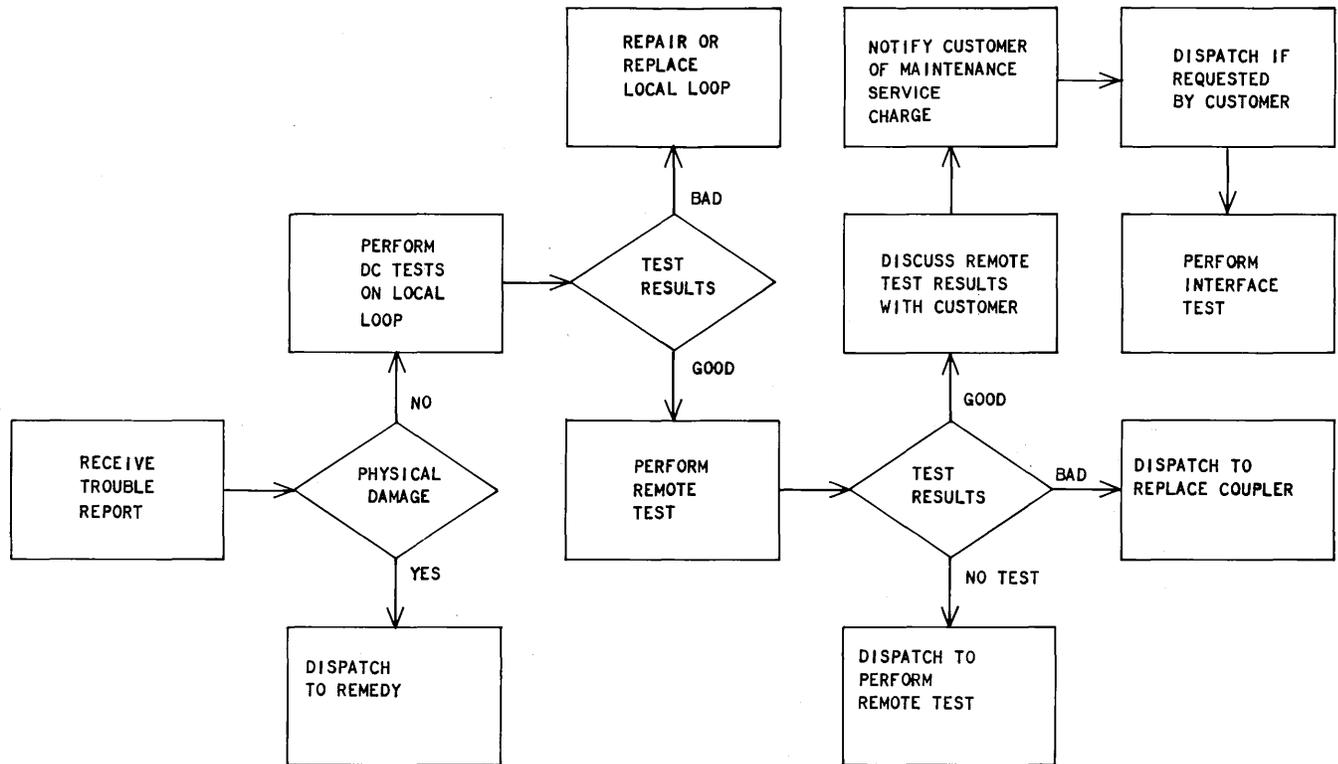

Fig. 15—Basic Activities Prior to Dispatching Employee
5.05 The PSC must analyze the information provided by the customer to determine if a trouble condition does exist and the most probable cause. Available tests (ie, normal dc loop test and remote test of coupler) should be performed to determine if a telco employee must be dispatched to customer premises. The conditions which could warrant a maintenance visit and efforts which lead to each are shown in Fig. 15.
5.06 On a maintenance visit, perform the tests or evaluations to isolate and clear the trouble within the station as directed by the PSC. Begin with the steps shown in Fig. 15 when the test results and analysis received from the PSC lead to that particular activity. If a trouble report is